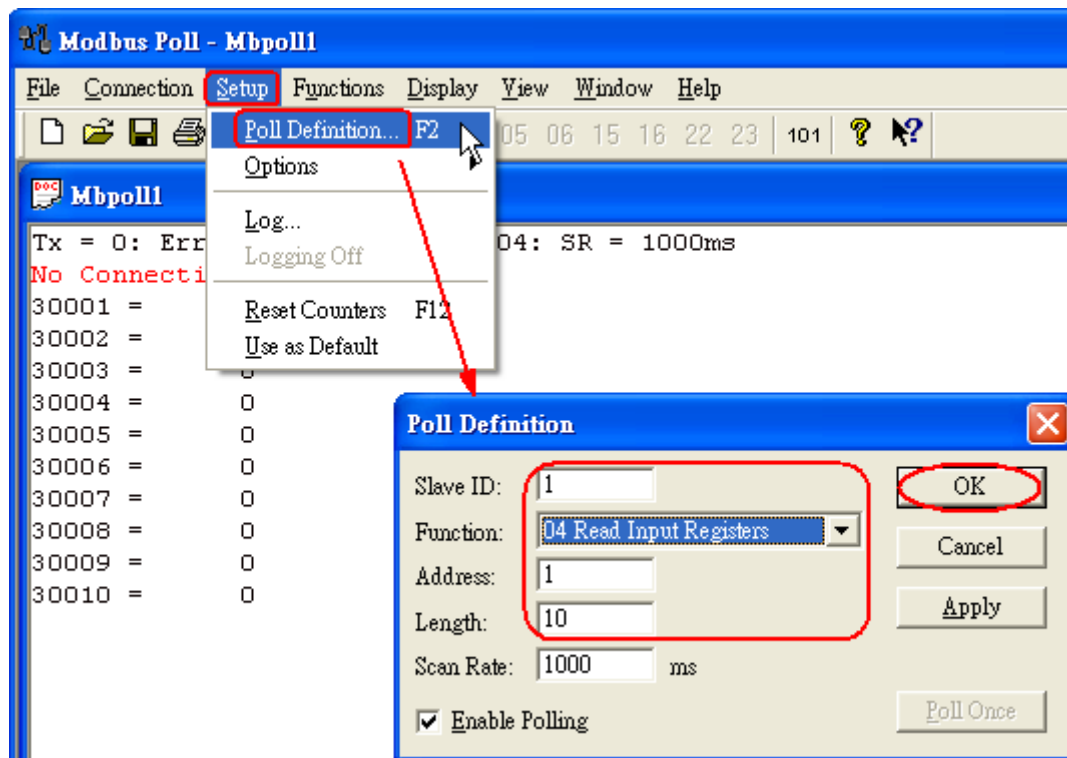

Figure 3-10 Modbus Parameters of “Modbus Poll” tool
- [2] The below MB/RTU client will use the "Modbus Poll" tool to show the CMD(3) data of HART device by polling Modbus address 0 ~ 9.
- <2> Set the "Modbus" parameters like Figure 3-10.